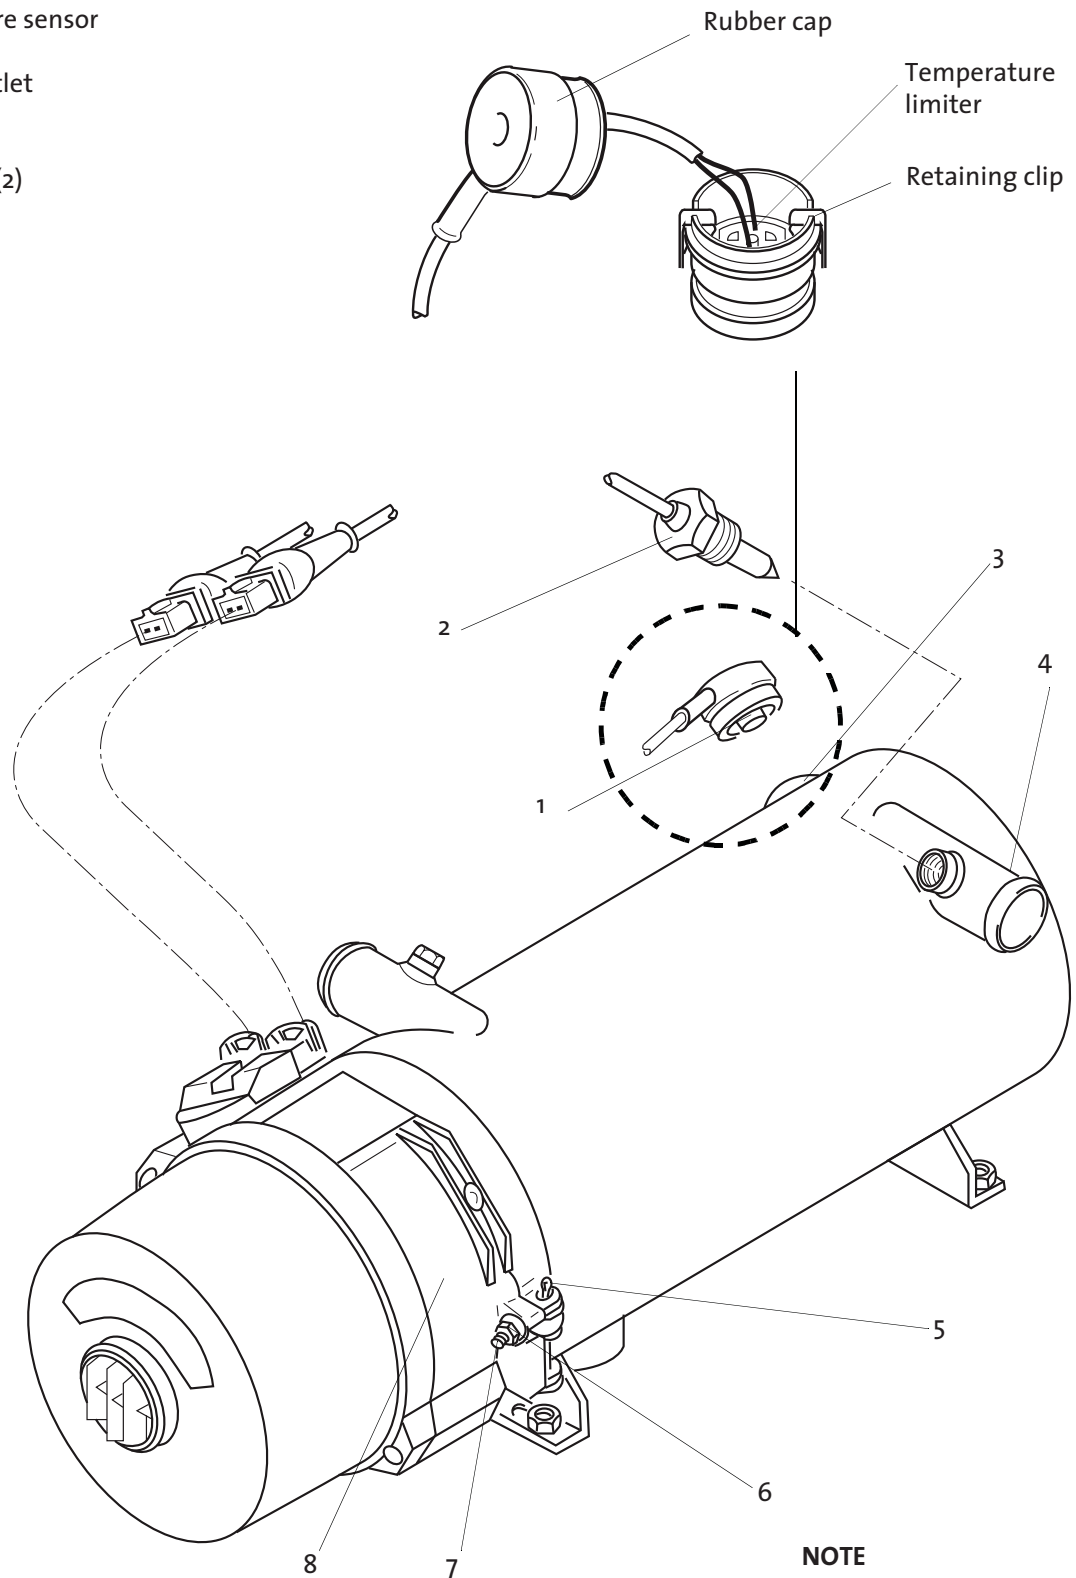

Figure 9: Temperature Limiter, Temperature Sensor and Burner, Replacement
2. Withdraw rubber cap. Using screw driver lever off retaining spring and remove temperature limiter (1, Fig. 9).
1. Slide rubber cap of temperature limiter (1, Fig. 9) back until temperature limiter can be located for installation.
2. Position temperature limiter (1) in connector (3) and push in retaining clip.
2. Unscrew temperature sensor (2, Fig. 9) and remove.
1. Manually screw temperature sensor (2, Fig. 9) into coolant outlet (4).
2. Loosen nuts (6, Fig. 9) until hinge bolts are free.
3. Swing hinge bolts (7) open and remove cotter pin (5).
4. Remove burner (8).
1. Position burner (8, Fig. 9) for installation, swing hinge bolts closed and secure temporarily using screws (6).
2. Insert cotter pin (5) according to the intended opening swing direction.
3. Tighten nuts (6) to 7.5 Nm + 1 Nm.